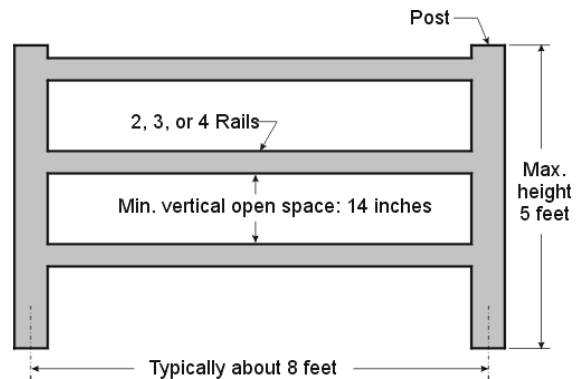

Figure 1. Post and rail fence
1. **Wood Fences** shall be of the post and rail design, shown in Figure 1. Fences may be designed with two, three, or four rails, provided the limiting dimensions shown in Figure 1, and identified in the text below, are followed.